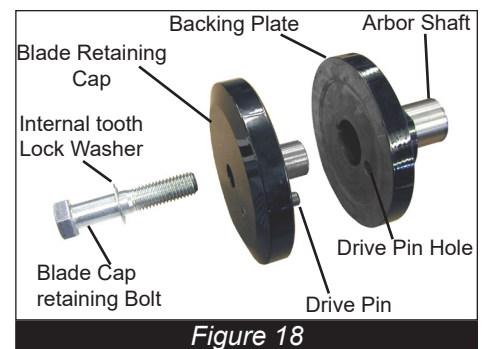

Figure 18
- Clean the arbor shaft, backing plate, and blade retaining cap and inspect for damage or wear. Make sure the blade retaining bolt threads are clean and undamaged, see (Figure 18). If any damage is detected, consult your EDCO dealer or EDCO factory.
- Carefully place blade retaining cap on blade with drive pin aligned in drive pin hole on blade, turn blade until the drive pin lines up with the drive pin hole in the backing plate. (Figure 18) Do not use a blade without a drive pinhole.